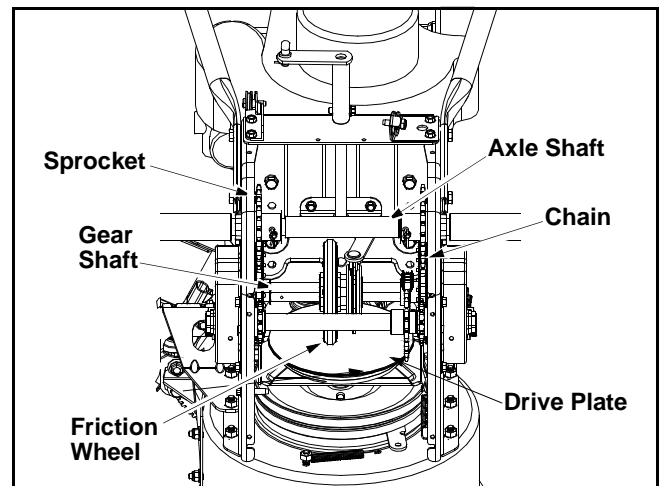

Figure 10
- With the traction control released, check if there is clearance between friction wheel and drive plate in all positions of the shift lever. See Figure 10.
- With the traction control lever engaged, check if the friction wheel solidly contacts the drive plate. See Figure 10. If not, adjust as follows:
- At least once a season or after every 25 hours of operation, remove rear cover. Lubricate any chains, sprockets, gears, bearings, shafts, and the shifting mechanism at least once a season. Use engine oil or a spray lubricant. Refer to Figure 10.
- Lubricate the gear shaft with 6-in-1 grease (part number 737-0170) at least once a season, or after every 25 hours of operation. Refer to Figure 10.
- Also engage the traction control and check if the friction wheel is making contact with friction plate. Refer to Figure 10. If it does not make contact, adjust the traction drive cable and recheck the friction wheel.